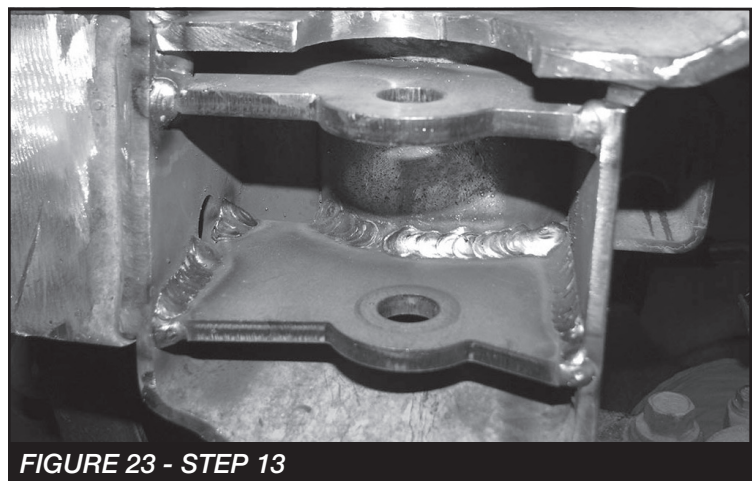

FIGURE 23 - STEP 13
13. **NOTE: THIS STEP IS TO BE PERFORMED BY A CERTIFIED WELDING TECHNICIAN ONLY!!!** Weld the gussets into the spring perch support and to the axle tube. **SEE FIGURE 23**